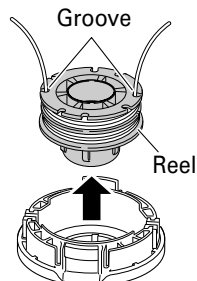

Fig. 23
- (3) Remove the reel from the case. (Fig. 23)